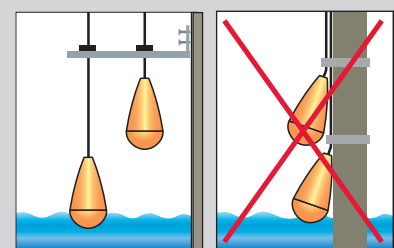

Fig. 2
- are suspended freely and vertically (see Fig. 2),